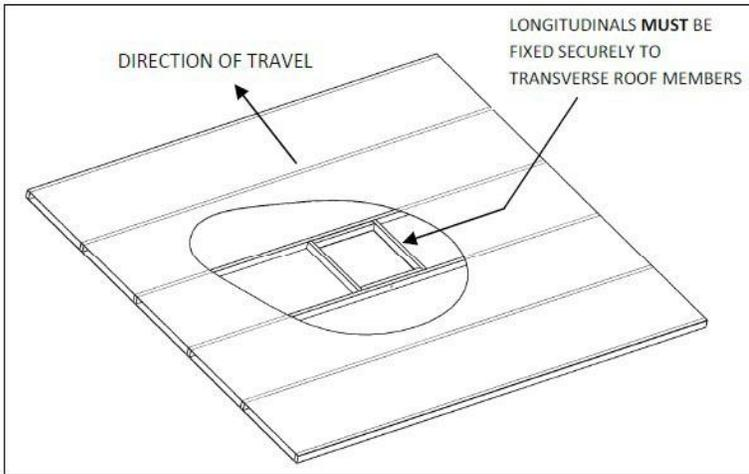

Fig 3: Shows an ideal roof structure with strong longitudinals and a 14' hole boxed
- The square hole in the roof (14" x 14") **MUST** be boxed up with minimum 3/4 inch square timber to provide a structure strong enough to withstand the compression of the installation bolts. This is also to ensure that air is not drawn from the roof cavity (Fig 3 & 4). Remember to leave access for wiring.
- Longitudinals **MUST** be fixed securely to the transverse roof members to transfer load (see Fig 3).
4. Press the cable sheath into the integral strain relief slot as shown in **Figure 2**. Wires must not extend beyond the stops as shown in **Figure 3**!
5. While holding the strain relief cover, position the housing's hinge posts into the hinge slots and press down until both lock into place as shown in **Figure 3**.